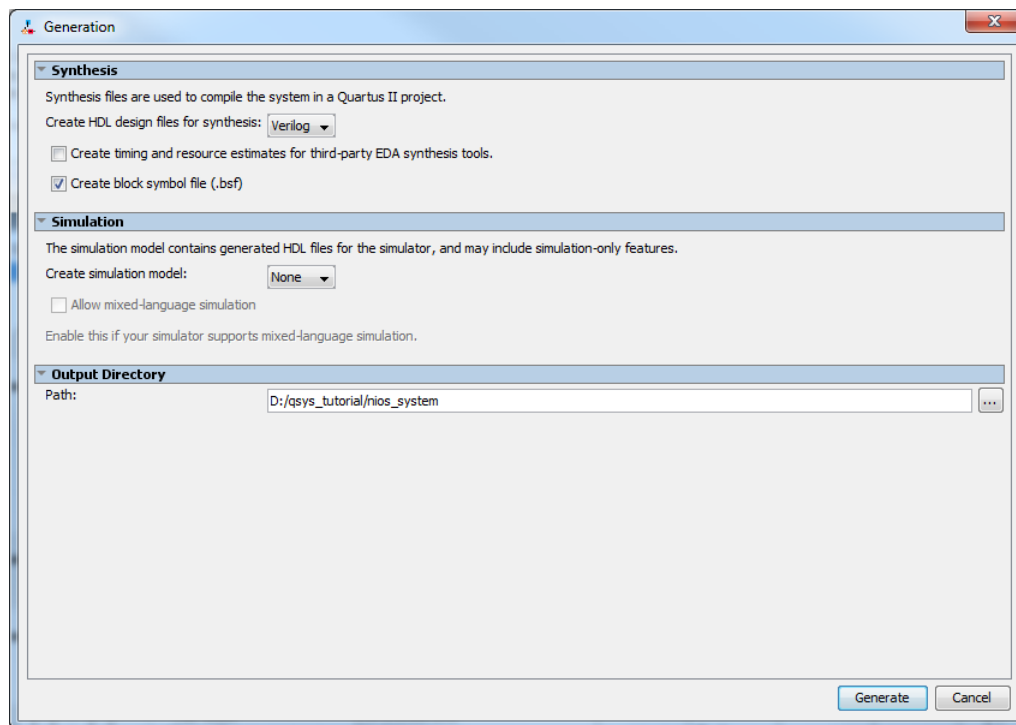

Figure 20. Generation of the system.
15. Having specified all components needed to implement the desired system, it can now be generated. Save the specified system; we used the name *nios_system*. Then, select **Generate > Generate HDL**, which leads to the window in Figure 20. Select **None** for the options **Simulation > Create simulation model** and **Testbench System > Create testbench Qsys system**, because in this tutorial we will not deal with the simulation of hardware. Click **Generate** on the bottom of the window. When successfully completed, the generation process produces the message "Generate Completed".